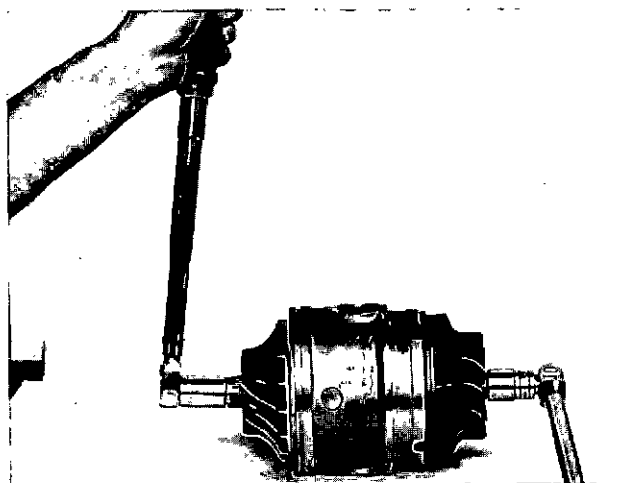

Fig. 4-36, (T465088). Torque the rotor nut on the rotor
13. Install the new locknut (14) at the compressor end of the rotor assembly. Put a 3/4" socket on the balance lug located at end of turbine wheel. This will keep the rotor assembly from turning while you torque the locknut to 20-24 ft-lb, Fig. 4-36.